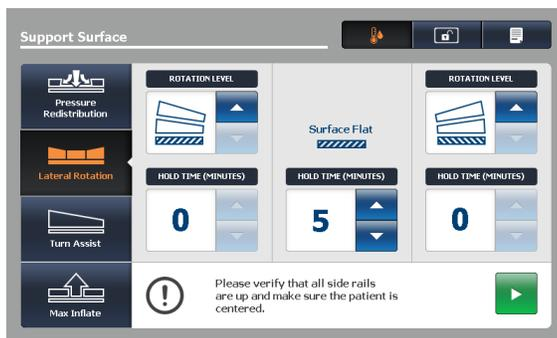

Figure 50: Lateral rotation screen
2. Adjust the Lateral Rotation selections as needed (Figure 50 on page 63):